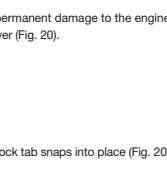

Fig. 21
The idle speed of the engine is adjustable. An idle adjustment screw is between the air filter cover and the engine starter housing (Fig. 21).
2. Release the throttle trigger and let the engine idle. If the engine stops, insert a small Phillips screwdriver into the idle adjustment screw (Fig. 21). Turn the idle speed screw clockwise 1/8 of a turn at a time (as needed) until the engine idles smoothly.